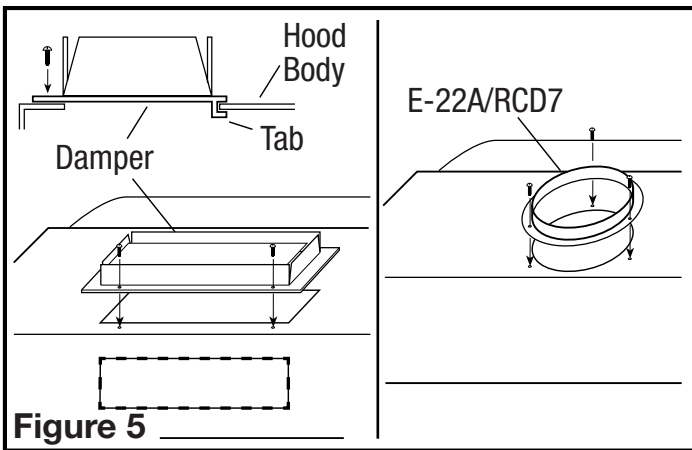

Figure 5
3. For 3-1/4" x 10" vertical or horizontal ducting, install the damper assembly to the hood by sliding the tabbed section of the damper under the hood body and securing with the two provided screws. For 7" round ducting, secure either a model E-22A or RCD7 Duct Collar (not included) to the hood with the three provided screws (**Figure 5**).